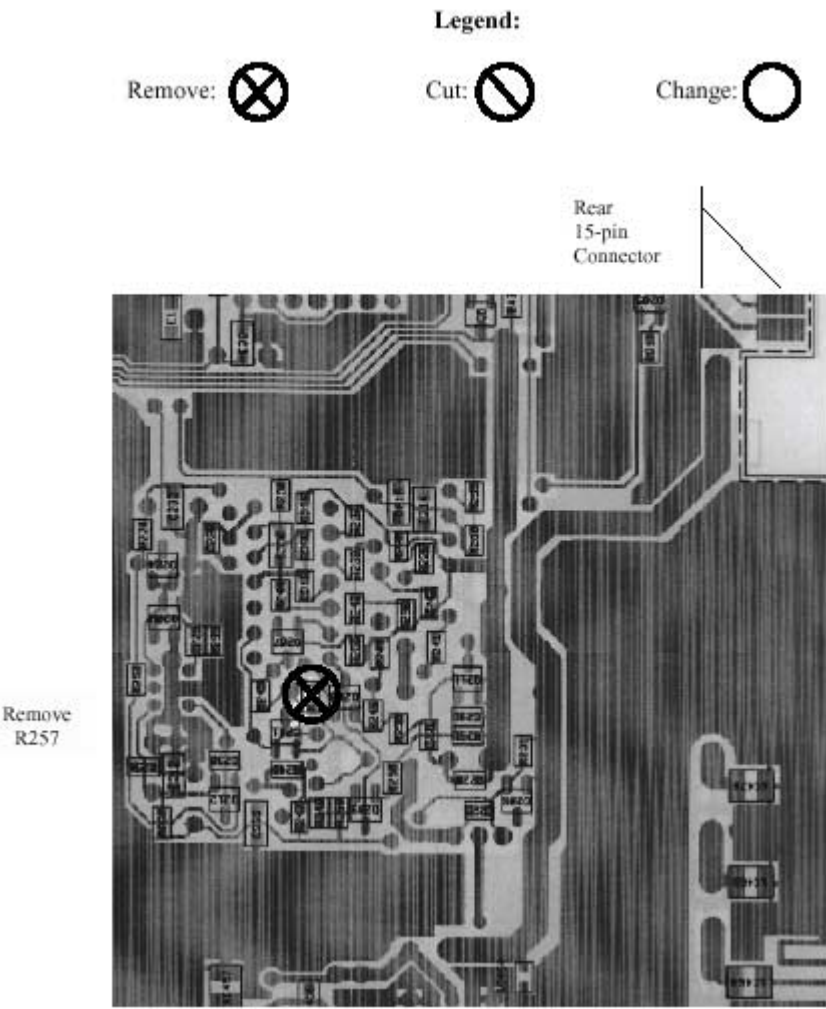

Figure 6 - T881 Exciter PCB. Bottom side (opposite handle side). 3/5
7. On the bottom side (opposite handle side), remove R257 (0Ω) resistor from the Transmit timer circuit. Refer to Figure 6, page 8. (Note 1)